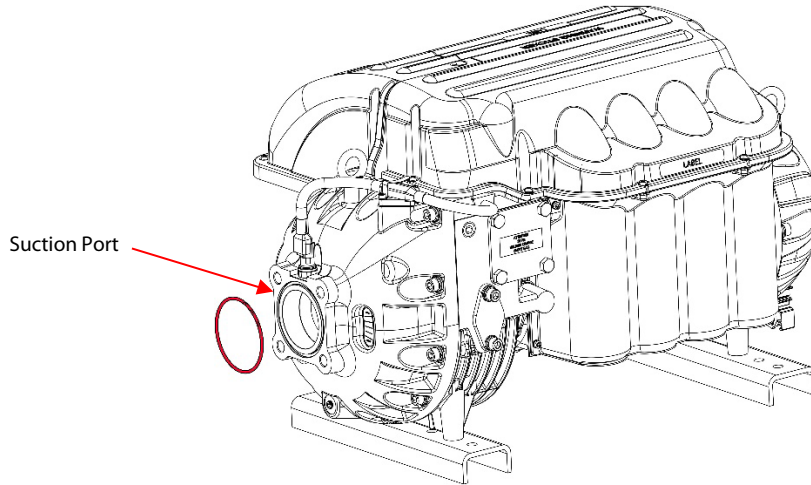

Figure 1 – Suction Port Location
6. Assemble the four (4) sets of M16 fasteners and washers.
7. Align the suction valve/flange with the compressor suction port (refer to Figure 1) and insert the four (4) fasteners. Finger-tighten and then torque, in a diagonal pattern, to 30 Nm (22.1 ft.lb.).